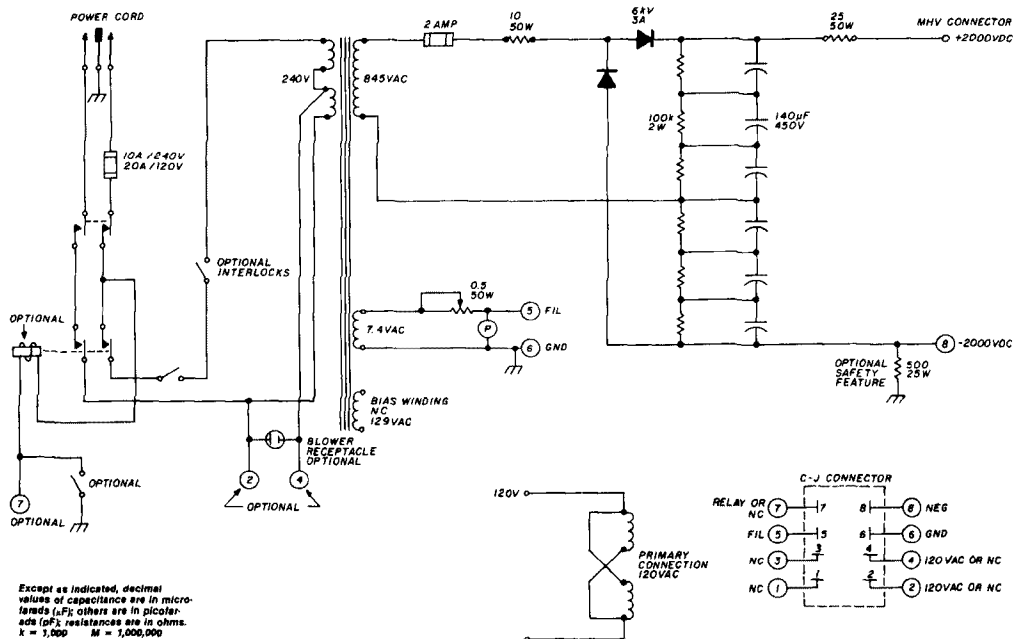

fig. 15. Schematic of the power supply for the triode stripline kilowatt amplifier.
For use with the triode amplifier, the screen regulation and grid bias components are omitted (fig. 15). Note that the metering resistors for the triode amplifier are located in the amplifier.
**Page 21 — (fig. 15):** The grid coil is three turns, 5/8 inches diameter, 3/4 inches long, No. 16 AWG.
**Page 21 — (fig. 15):** The butterfly capacitor mounts are made of G-10 glass epoxy laminate having a thickness of 0.06 inch.